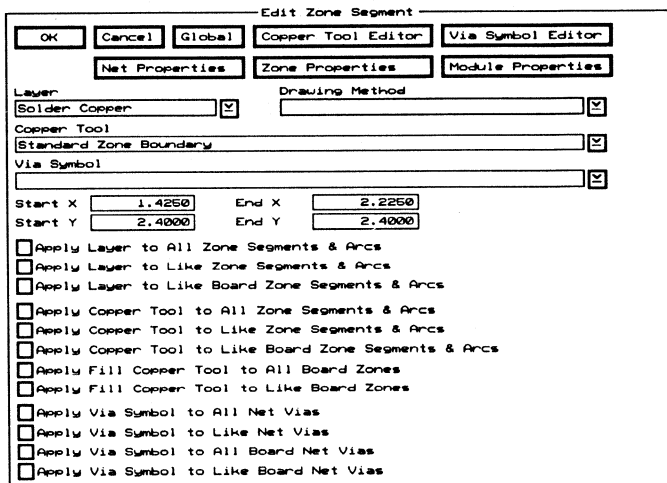

Figure 6-11. The Edit Zone Segment dialog box.
1. Place the pointer at (2.6000", 2.1750"), the upper right corner of the fill zone, and select EDIT. The Edit Zone Segment dialog box displays (figure 6-11).